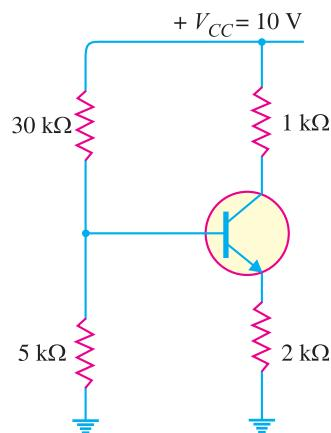

Fig. 9.51
8. In a transistor circuit shown in Fig. 9.51, find the operating point. Assume silicon transistor is used. [I_C = 0.365mA, V_{CE} = 8.9V]